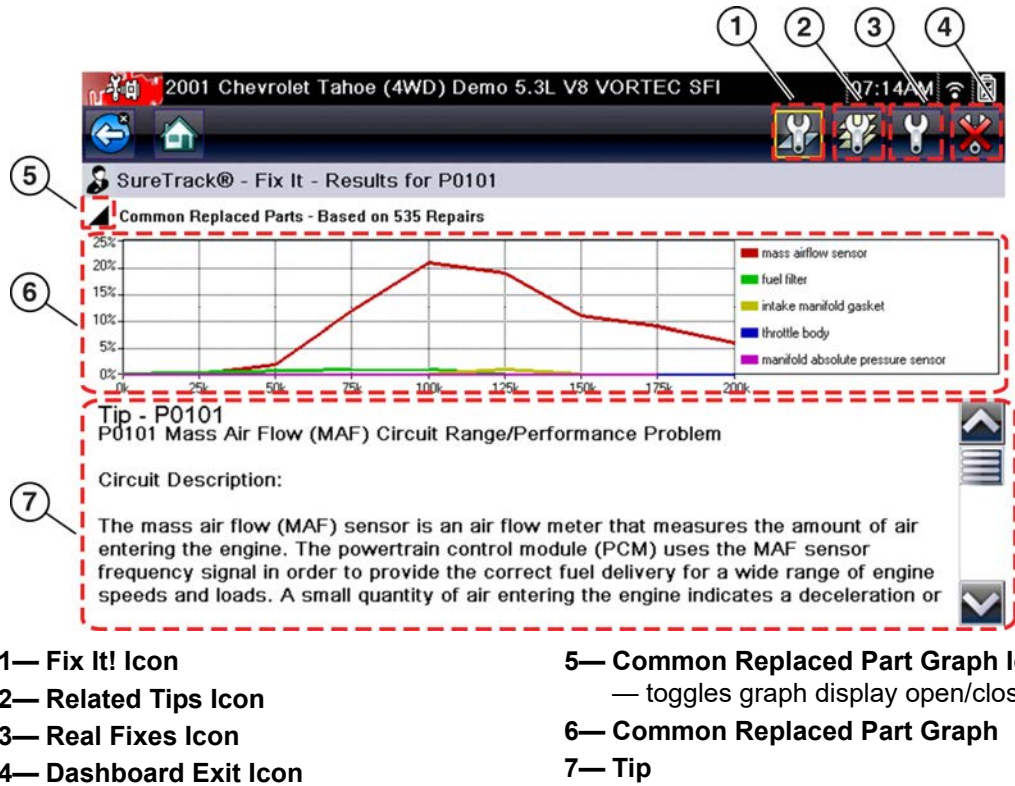

Figure 6-2 SureTrack Dashboard
Selecting the **Fix It!** icon from the DTC results screen opens the SureTrack dashboard. The initial Dashboard screen displays the Common Replaced Parts Graph and either a Tip or Real Fix for the selected DTC (depending on availability). The Related Tips and Real Fixes icons are also available from this screen (Figure 6-2).
- Selecting the **Fix It!** icon (Figure 6-2) from the DTC results screen opens the SureTrack dashboard which may include Real Fixes for the selected DTC. If Real Fixes are not available for the DTC, Tips may be displayed.
- Selecting the **Real Fixes** icon (Figure 6-2) displays Related and Real Fixes (if available). Selecting an item from the list opens additional details about the Fix in a Complaint, Cause, Correction format (Figure 6-5).